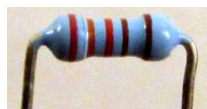

Figure 7: Resistor
- e. Prepare a resistor to be added to the breadboard: bend the wire on both sides of the resistor and cut the excess wire, to resemble Figure 7